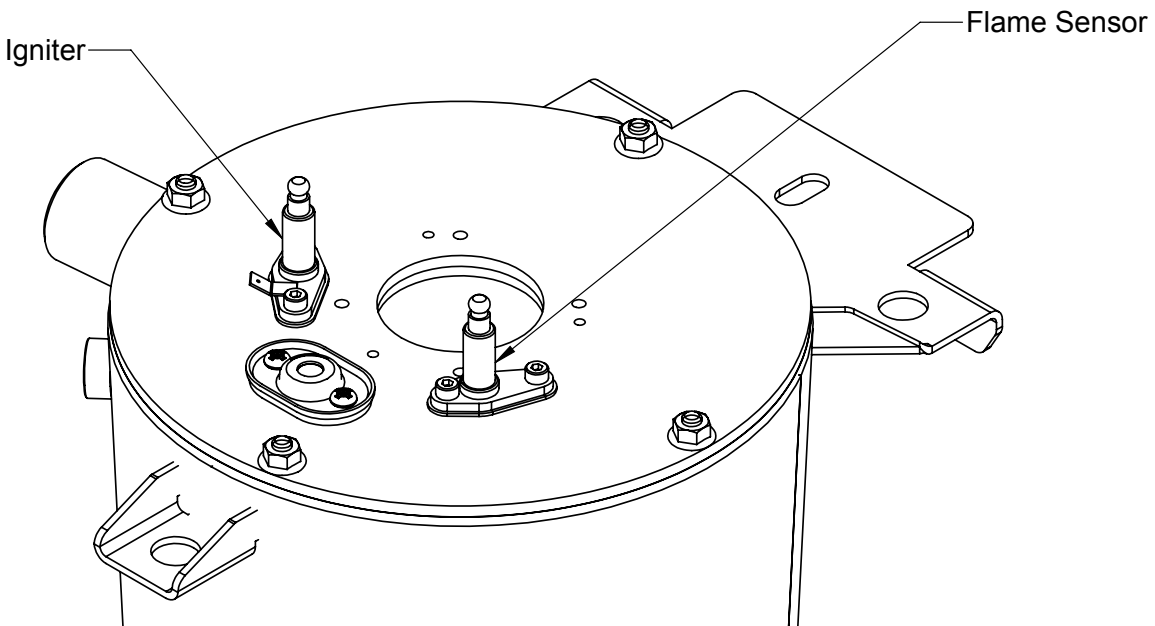

Figure 13.2: Igniter and Flame Sensor Location
- i. **Unplug the igniter, ground, and flame sensor wires** from the ignition electrode and the flame sensor (Figure 13.2).
- j. **Use a 10 mm wrench to remove** fire door to the heat exchanger (Figure 13.2). Carefully remove the door/blower/gas valve assembly from the heat exchanger, being careful not to damage the refractory insulation on the inside of the door (see Refractory Warning on page 137) or the electrodes.